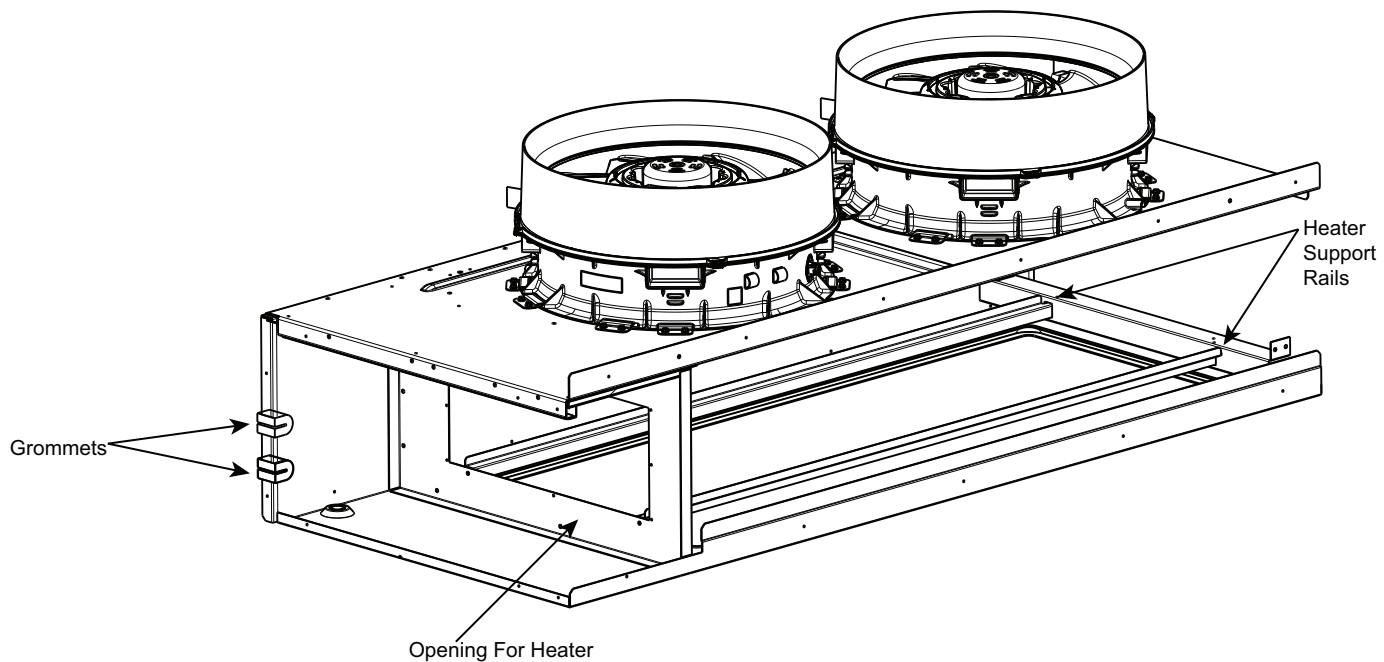

Fig. 50 — Opening for Electric Heater
4. Insert heater assembly through opening where block-off plate was previously removed. Let back end of heaters slide along support rails beneath fan deck. (See Fig. 50.)
6. Route heater power wires through grommets in vertical fan deck support. (See Fig. 50.) Continue routing wires under coil and filter support through the bottom notched section of the control box. Avoid sheet metal edges and any protruding screws.